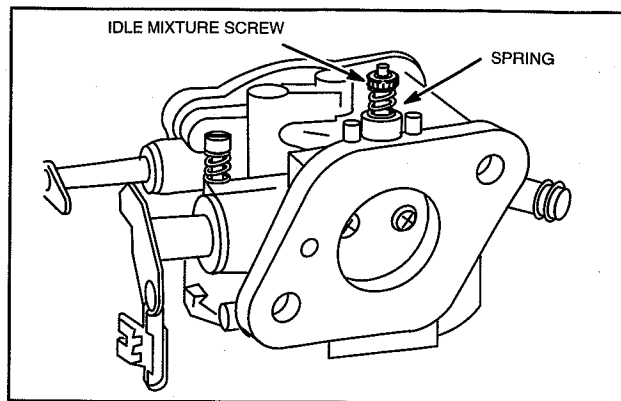

Fig. 23 – Install Idle Mixture Screw
18. Install idle mixture screw and spring, Fig. 23.